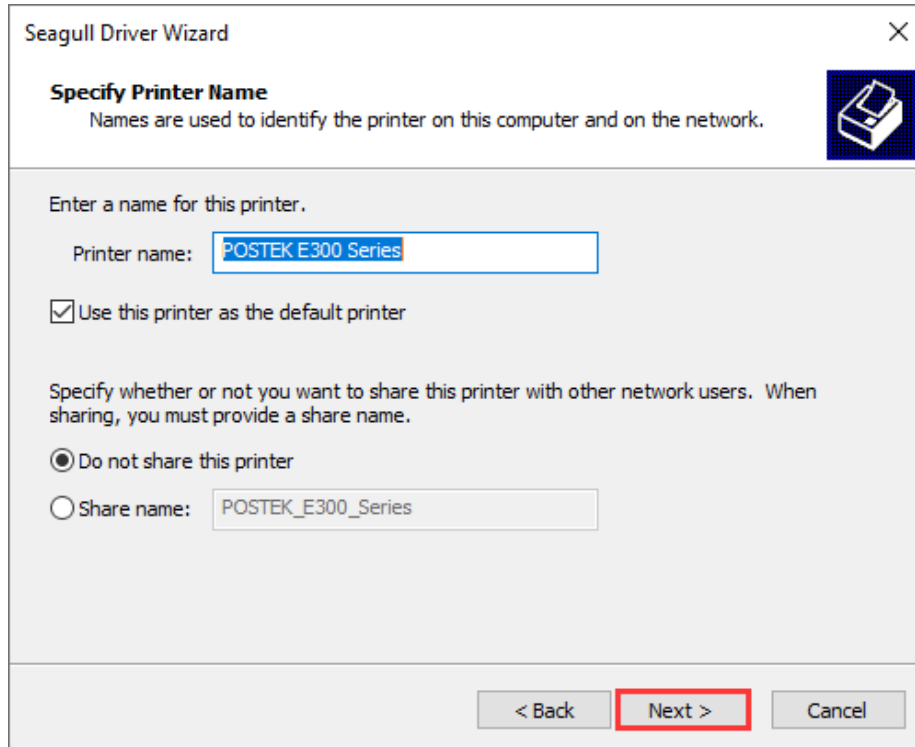

Figure 2-25 Specify Printer Name
8. On the “Specify Printer Name” screen, enter a name for the printer, as shown in Figure 2-25,